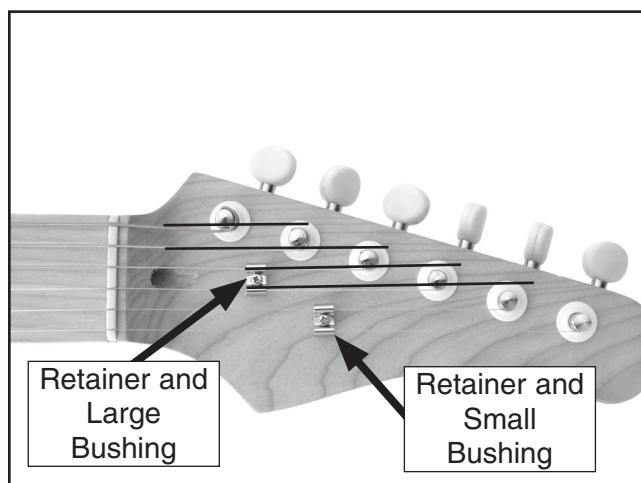

Figure 25. String retainer locations.
One string retainer mounts between the 1st and 2nd strings, and the other string retainer mounts between the 3rd and 4th strings (**Figure 25**).
1. Slide a #2 x 1/2" silver screw through a retainer and large bushing, and fasten it to the front hole on the headstock (**Figure 25**).
2. Slide a #2 x 3/8" silver screw through a retainer and small bushing, and fasten it to the back hole on the headstock (**Figure 25**).